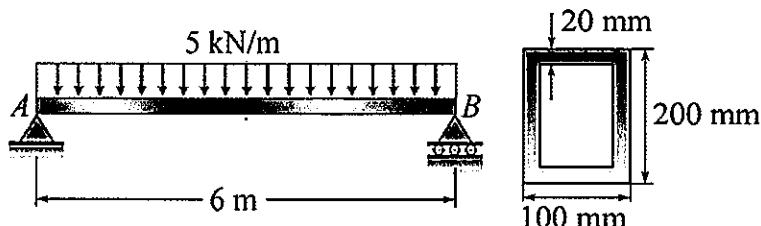

Figure 3(b) / Rajah 3(b)
- CLO2 (b) A symmetrical composite beam, 6 m long as depicted in Figure 3(b), is simply supported at both ends A and B.